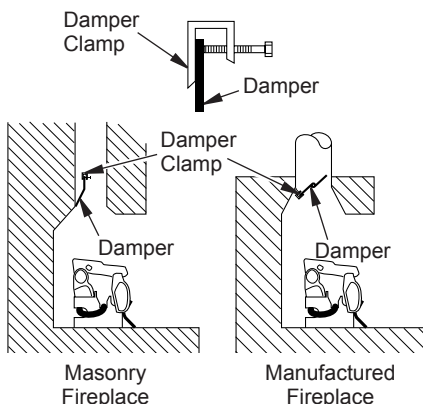

Figure 2 - Attaching Damper Clamp
2. Remove contents from side compartments (see Figure 2).
Secure the damper stop clam to the edge of the damper as shown in Figure 2. If for any reason this clamp doesn't work on your fireplace, another suitable clamp or permanent stop must be installed, or the damper blade must be cut or removed.